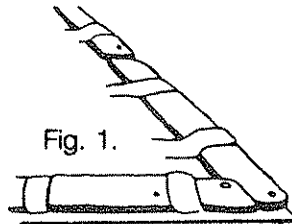

Fig. 1.
5. The water bags must cover the entire perimeter of the cover to prevent wind from getting under the cover and causing the cover to billow or flap. Caution such billowing or flapping in the wind can cause serious damage to your cover. Therefore, be sure the waterbags are placed end - to - end as in Figure 1.